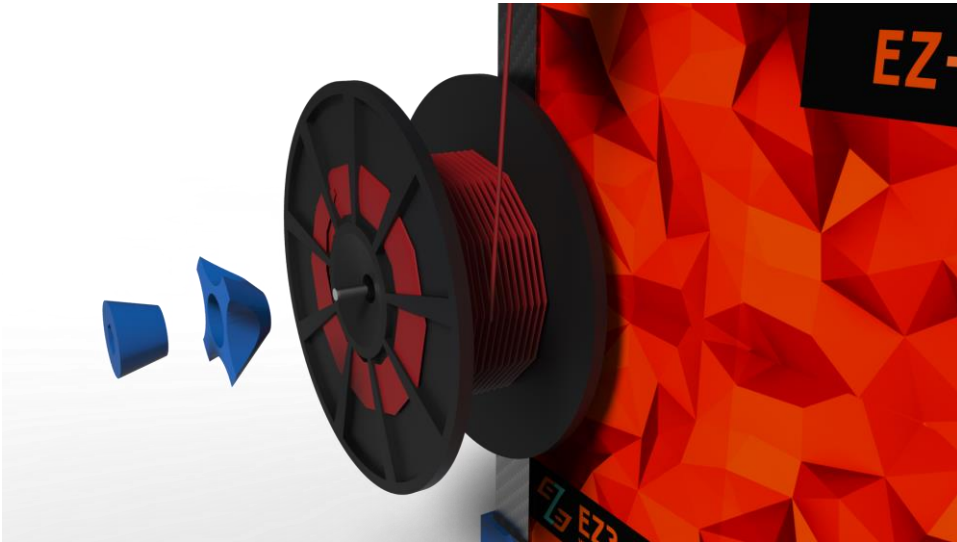

Figure 4.1: Filament spool mount parts
1. Locate the filament reel spindle and unthread and remove the wing nut and washer (fig. 4.1,). Set the filament reel on to the rear reel mount with the filament feeding clockwise. Insert the reel spindle into the plastic filament reel.